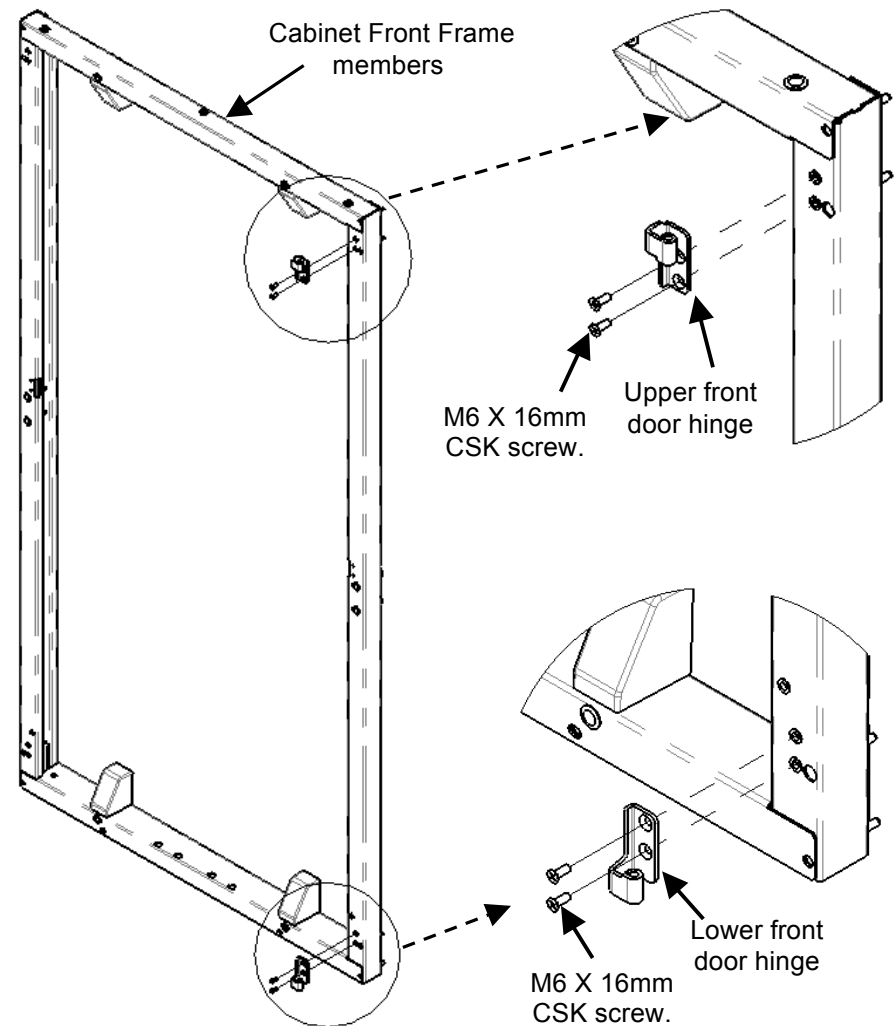

Fig. 1
1. Attach each hinge to each side of the frame with two M6 X 16mm CSK screws in orientation shown in Fig. 1 (Hinge orientation is opposite when placing hinges on the other side).